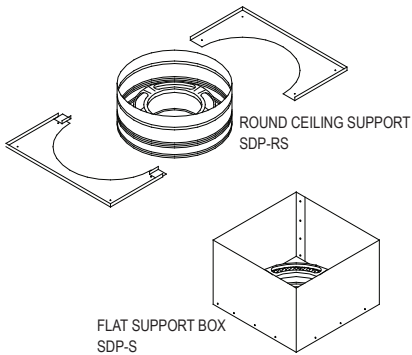
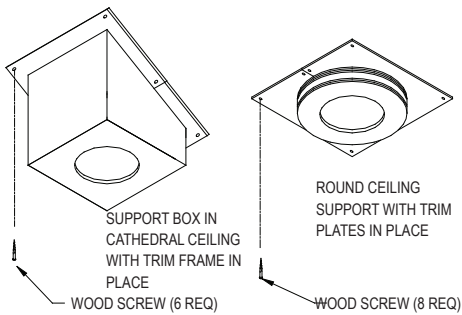
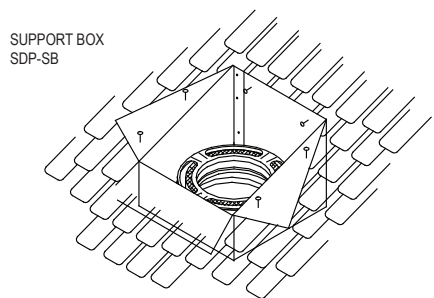

Figure 5
Figure 6
Figure 22
3. Install Support: Slip the Support Box (Figure 5), into the framed opening. It must extend at least 2 inches below the finished ceiling. Level the Square Support Box and nail it to the framing using at least two 8-penny nails per side. The two Trim Frames are positioned as shown, and screwed through the ceiling and into the framing members with (6) 1-1/4 inch long round-head wood screws. (Figure 6). The bottom of the Round Support must also be at least 2 inches below the finished ceiling. Trim for the Support Boxes is “U-shaped”. The trim pieces are adjusted to accommodate the Square Support Box, and screwed into the framing, using wood screws. A completed Square Support Box installed in
a cathedral ceiling with the “U-shaped” trim is also shown in Figure 6. Trim kits are available in brass, to enhance the appearance of the various Support Boxes and Trim Frames. Where the chimney passes through additional floors and ceilings, install Firestop Radiation Shields. Where the chimney passes through an attic, Firestop Radiation Shields and Insulation Shields must be installed.
3. Install Support Box: Slip the Square Support Box into the framed opening so it projects at least 2 inches below the finished ceiling and rafters, and extends above the ceiling to framing or decking materials to which it will be nailed. Level the Support Box, and slit the corners to the roofline where they extend beyond it. Bend the flaps (created by the slitting) flush with the roof, and nail the Support Box to the roof or framing with at least two 8-penny nails per side. (**Figure 22**). Screw the trim sections into the ceiling. (**Figure 6**).